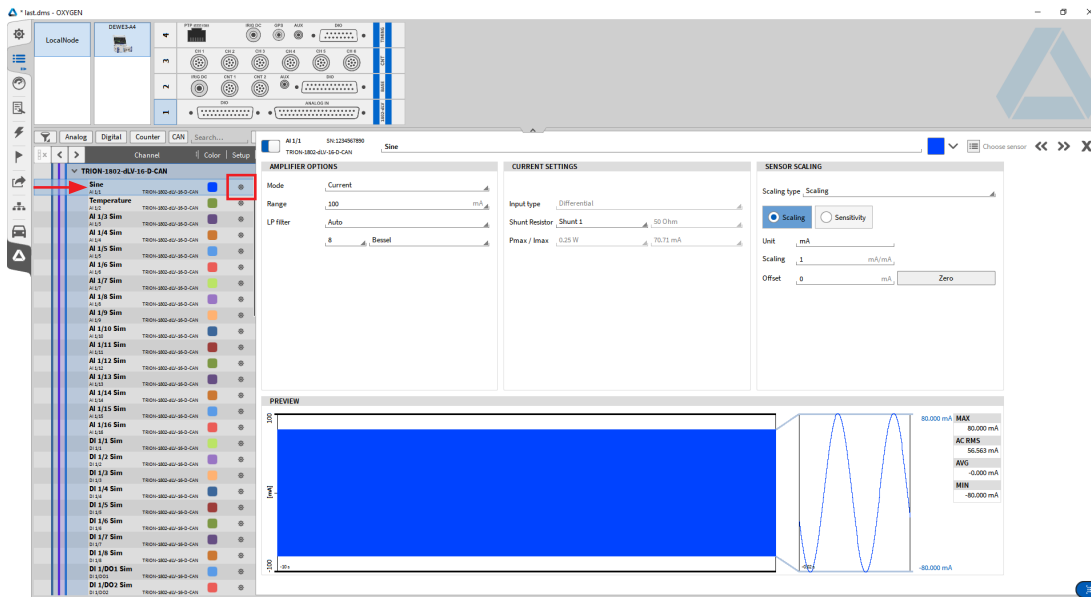

Fig. 21: Changing channel settings
2. Alternatively, the channel settings will also open by clicking on the gear button (see *Fig. 21*).